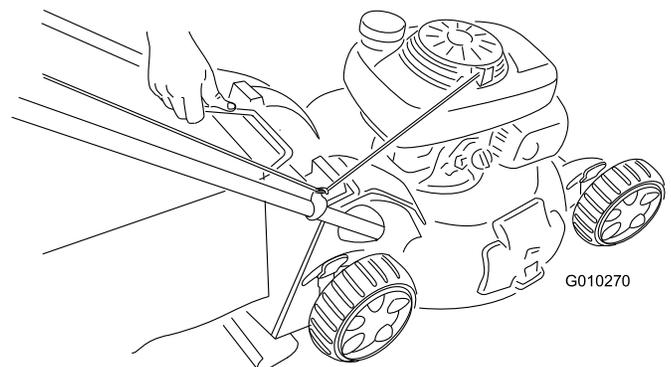

Figure 31
2. Lift the grass-bag handle out from the grooves at the top of the machine, and remove the bag from the machine (Figure 31).